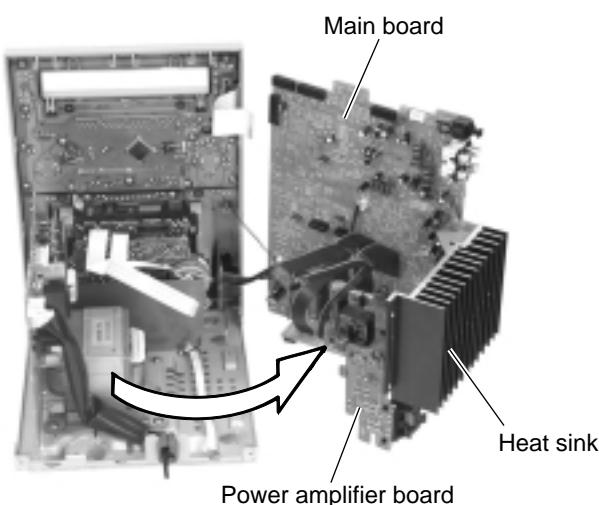

Fig.17
CAUTION: The wire extending from the lower side of the main board is still connected with the body (Refer to Fig.17).
- Remove the assembly consisting of the power amplifier board, the power amplifier sub board and the main board from the chassis incompletely (Refer to Fig.17).
- Remove the assembly consisting of the power amplifier board, the power amplifier sub board and the main board (Refer to Fig.17 and 18).